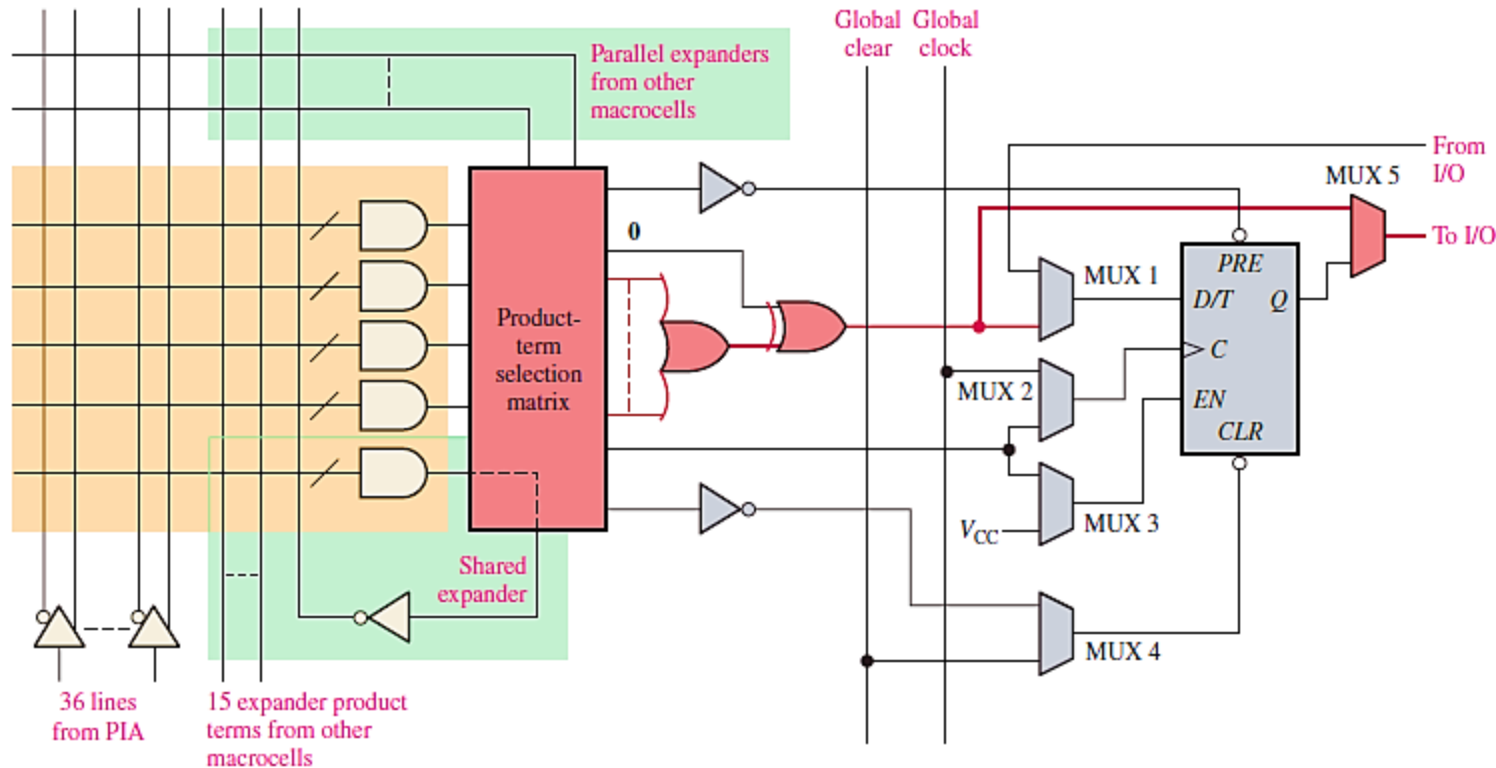

FIGURE 7 A macrocell configured for generation of an SOP logic function. Red indicates data path
- When a macrocell is programmed to produce an SOP combinational logic function, the logic elements in the data path are as shown in red in Figure 7. As you can see, only one mux is used and the register (flip-flop) is bypassed.